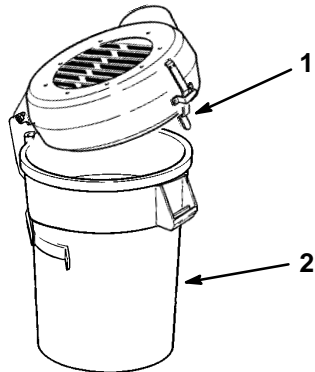

Figure 17
8. Raise the top and install the canister. Lower the top assembly and latch in place (Fig. 17).